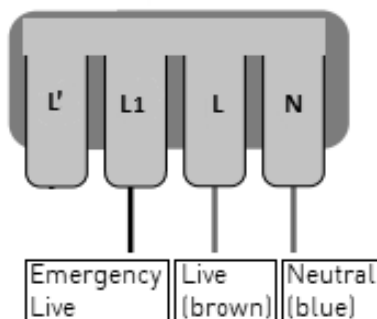

Fig. 3
- Connect the Live (brown), Emergency Live (L1) and Neutral (blue) to the terminals on the terminal block (see Fig. 3)